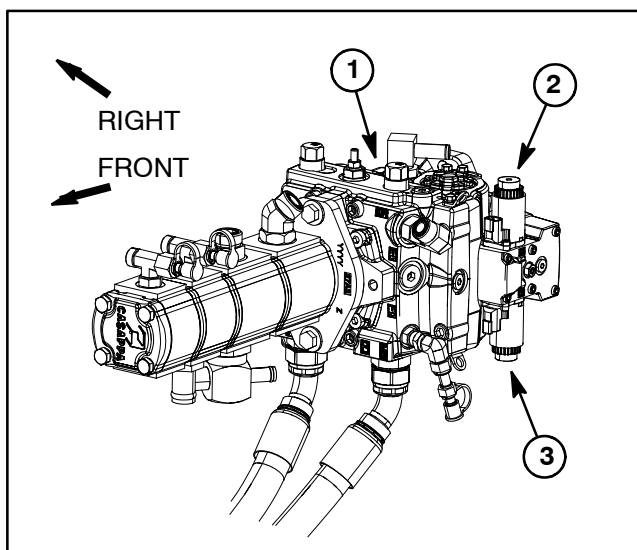

Figure 69
The piston (traction) pump uses an electronic control assembly for swash plate rotation. Electrical outputs from the machine TEC controller are provided to two (2) solenoid coils for pump control. The piston pump control assembly is attached to the left side of the piston pump (Fig. 69).
2. Locate piston pump solenoid coil to be tested (Fig. 69). Disconnect wire harness connector from solenoid coil.